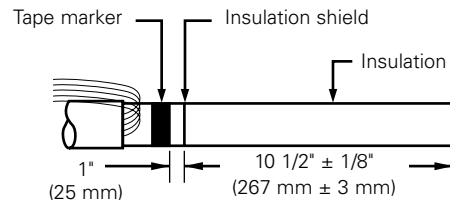

Figure 16. Line illustration of cable stripback.
- Remove insulation shield 10 1/2" (267 mm) from end of cable. Refer to Figure 16.
- Measure 1" (25 mm) from end of insulation shield. (Refer to Figure 16.)